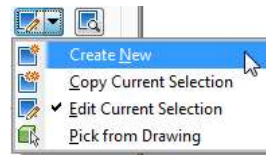

Figure 4-24 Choosing the **Create New** option from the flyout
1. In the **Analysis** tab, choose the down arrow button from the **Legend** area and then choose the **Create New** option from the flyout displayed, as shown in Figure 4-24. On doing so, the **Table Style - New Elevation Table Style** dialog box is displayed.